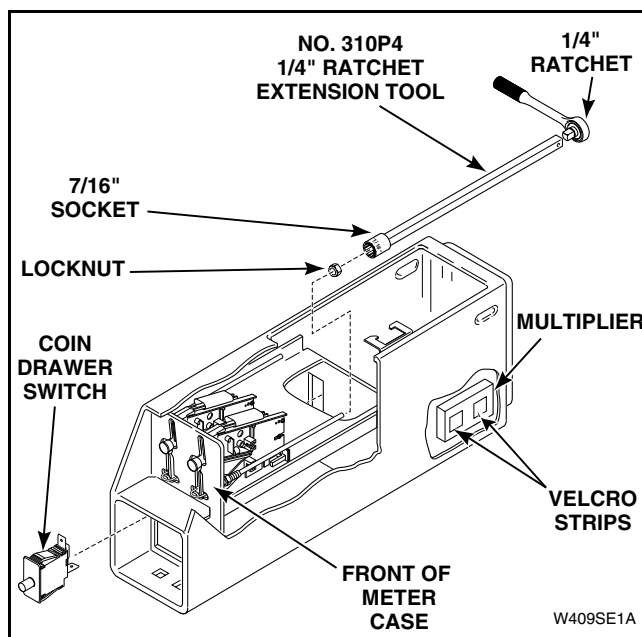

Figure 12
- Remove wire harness from multiplier. Move wire harness out of the way. Refer to *Figure 12*.
- Remove multiplier from inside meter case. Refer to *Figure 12*.
- Press in on locking tabs of coin drawer switch and remove switch through front of meter case. Refer to *Figure 12*.
- Use a 7/16 inch socket with No. 310P4 1/4 inch Ratchet Extension Tool and remove two locknuts holding coin drop to front of meter case. Refer to *Figure 12*.
- v. Reinstall multiplier and reconnect wires. Refer to *Figure 12*.